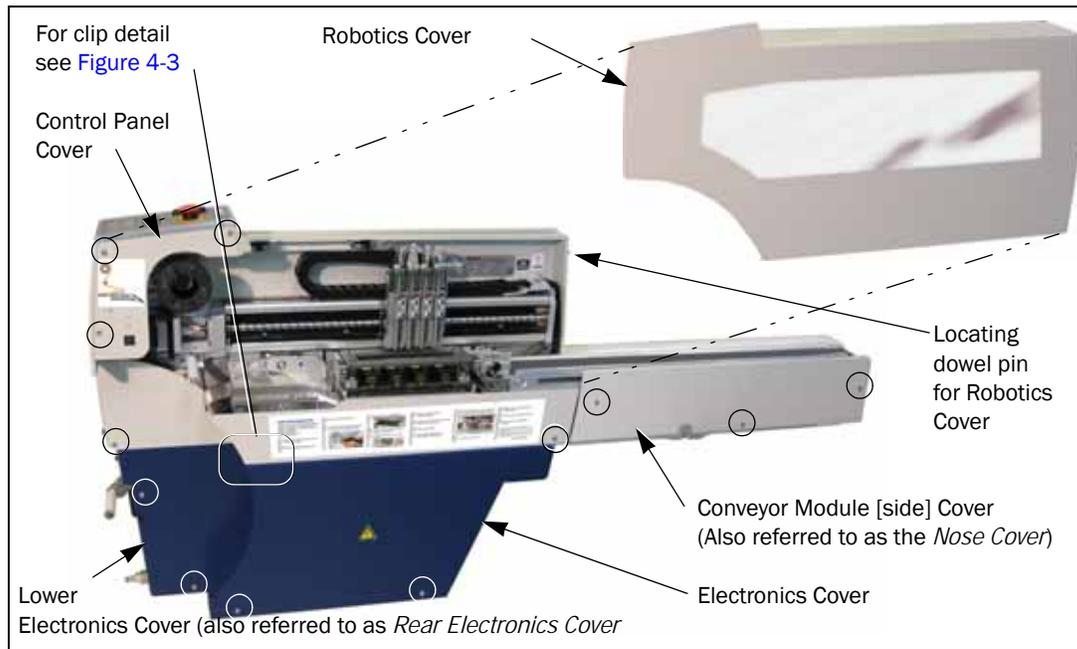

Figure 4-2—Covers (with Screw Locations Indicated by Circles)
1. Turn the power OFF (0).
4. Remove the three screws that hold the Electronics Cover to the chassis. *For screw locations see Figure 4-2.*
6. Remove the three screws that hold the Lower Electronics Cover to the chassis. For screw locations see Figure 4-2.
3. Remove the three screws that hold the Conveyor Module Cover to the chassis. *For screw locations see Figure 4-2.*
3. Remove the three screws that hold the Control Panel Cover to the chassis. *For screw locations see Figure 4-2.*
For Cover screws, see Figure 4-2 on page 4-6.